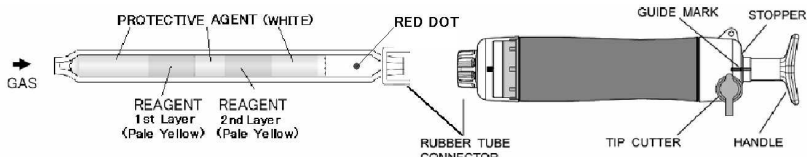

Fig.1
- ① Break both ends of the detector tube.
- ② Insert the end of the detector tube marked with red dot into the aspirating pump securely as shown in Fig.1.
- ③ Align the guide marks on the shaft and stopper of the aspirating pump.
- ④ Pull the pump handle at a full stroke until it locks and wait for 30 seconds
- ⑤ Remove the detector tube from the pump and wait for 2 minutes to change the colour of reagent at 15 °C.